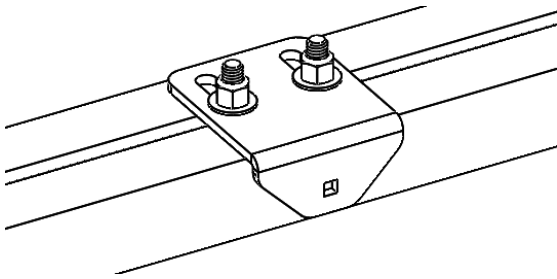

Figure 1: Upper Support Bracket Attached to Bike Tray
2. Slide four (4) 3/8" carriage bolts into each bike tray slot.
3. Over the center two (2) carriage bolts, mount the upper support bracket using the corresponding 3/8" washer and nuts (reference Figure 1). The flange should be pointed away from the side with the locking mechanism. Leave the bolts loose enough to be able to slide the bracket within the bike tray for now.